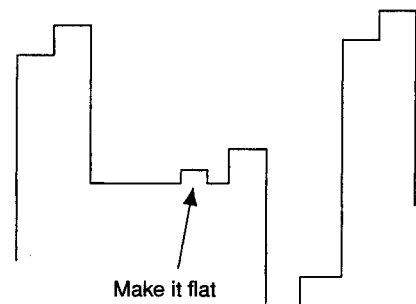

Fig. 5-14
- 4) Adjust **PHASE NTSC 358 NOR** so that the burst section of the output waveform will be straight. (Fig.5-14)